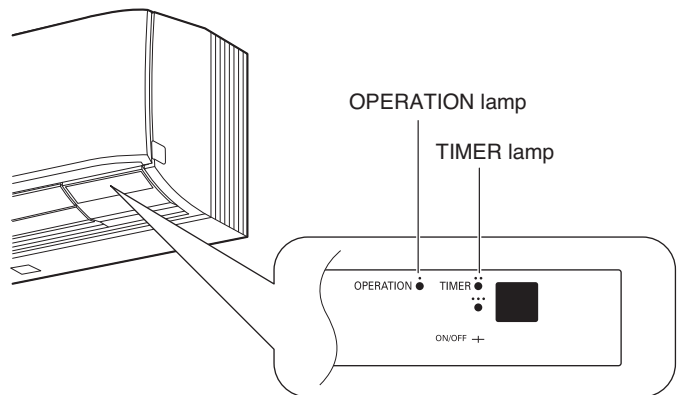

Fig. 13
- This starts the fan producing uncooled forced air with the 3 indicator lamps (OPERATION lamp, TIMER lamp, and ❄️) on the main unit blinking. (Fig. 13)